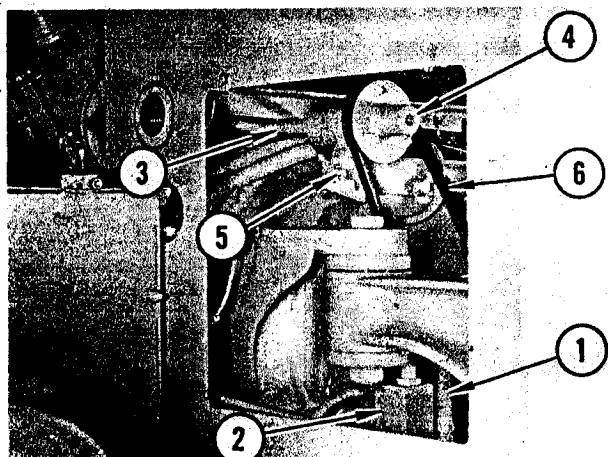

FIGURE 9. GOVERNOR DRIVE PULLEY REMOVAL (GM ENGINE)
Refer to Figure 9. Remove hose (1) from fitting on relief valve (2). Remove tail shaft governor flexible shaft (3) from tail shaft governor drive pulley (4). Loosen cap-screws (5) and remove "V" belt (6). Remove